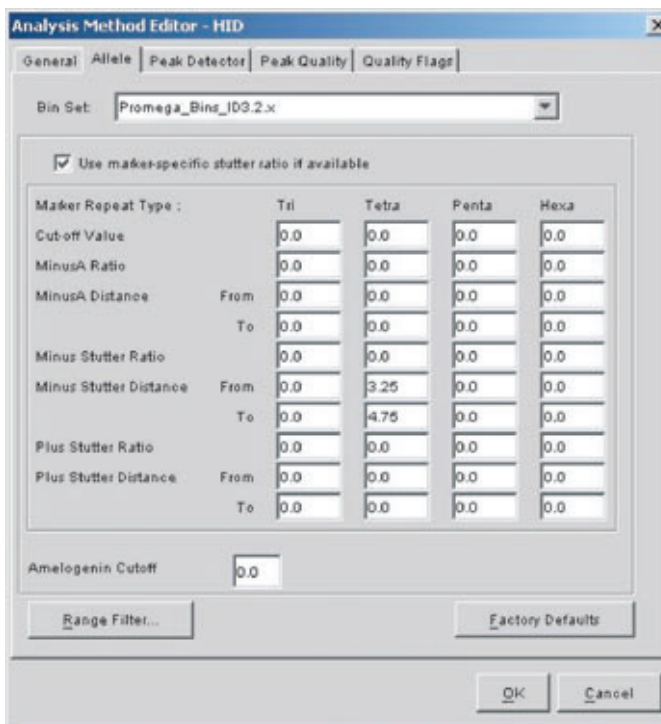

Figure 3. The Allele tab. Select the bin set “Promega_Bins_ID3.2.X.txt”, where “X” refers to the most recent version of the bin set.
6. Select the Allele tab (Figure 3).
9. Enter the values shown in Figure 3 for proper filtering of stutter peaks when using the PowerPlex® ES System. For an explanation of the proper usage and effects of these settings, refer to the Applied Biosystems user bulletin titled “Installation Procedures and New Features for GeneMapper ID Software 3.2”.